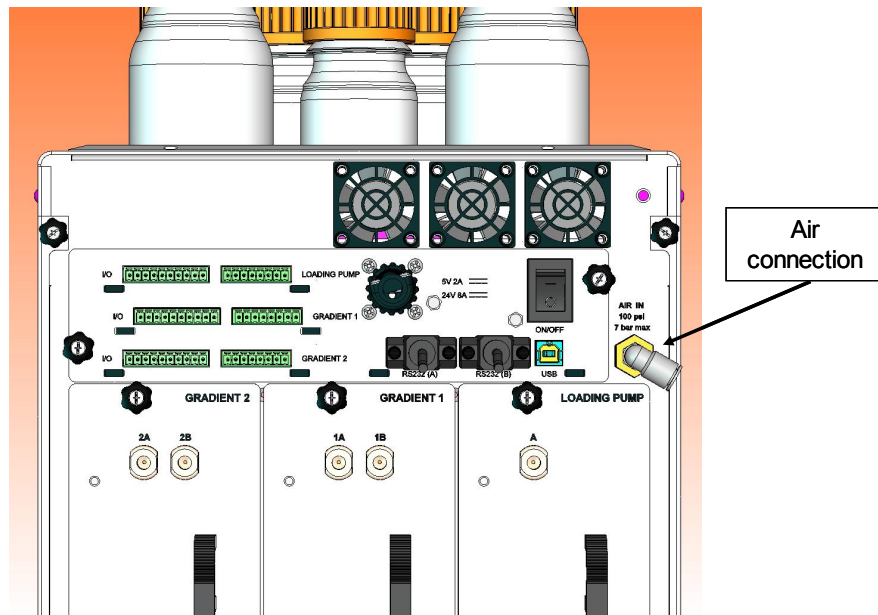

Figure 2-3 Rear panel—gas connection
2. Connect the other end of the gas line to the connection on the back of the NanoLC Ultra system (see Figure 2-3).